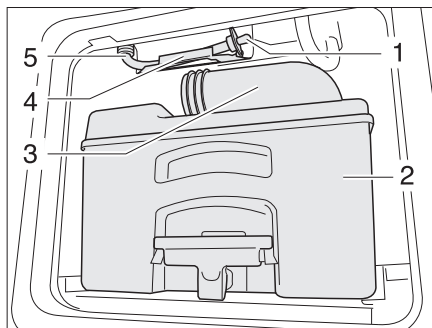

Fig. 138 Toilet water tank drain hose
- Empty the cassette (Fig. 138,2) at a disposal station authorized for this purpose and clean it.
- Leave the drainage neck (Fig. 138,3) open.
- Remove the drain hose (Fig. 138,5) from the holder (Fig. 138,4).
- Remove the drain plug (Fig. 138,1) and let the residual water run out.